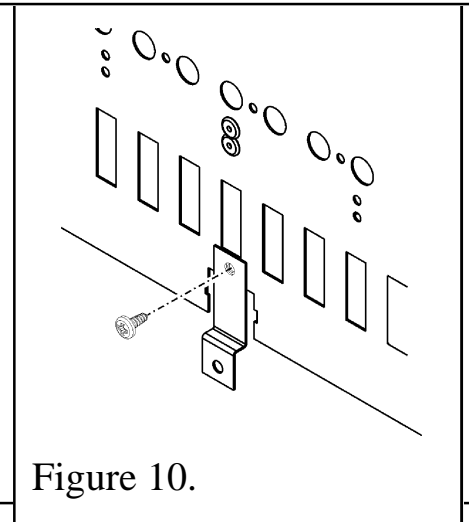

Figure 10.
2. If the heater is to be fixed in an elevated position (i.e. above hearth or finished floor height) then the lower support bracket and light baffle need to be secured to the rear bottom of the heater (See figure 10 & 11).